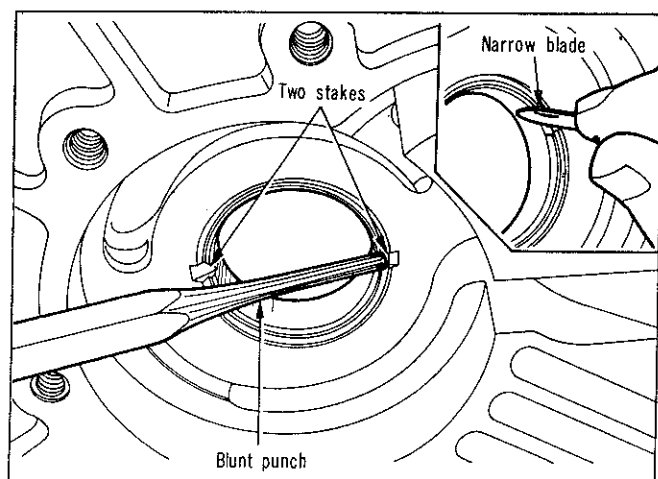

Fig. 45—Staking pump bushing
(6) Drive bushing into housing until tool bottoms in the pump cavity. Be careful not to cock tool during installation.
(7) Stake bushing in place by using a blunt punch or similar tool (Fig. 45). A gentle tap at each stake slot location will suffice.
(8) Using a narrow-bladed knife or similar tool, remove high points or burrs around staked area (Fig. 45). Do not use a file or similar tool that will remove more metal than is necessary.